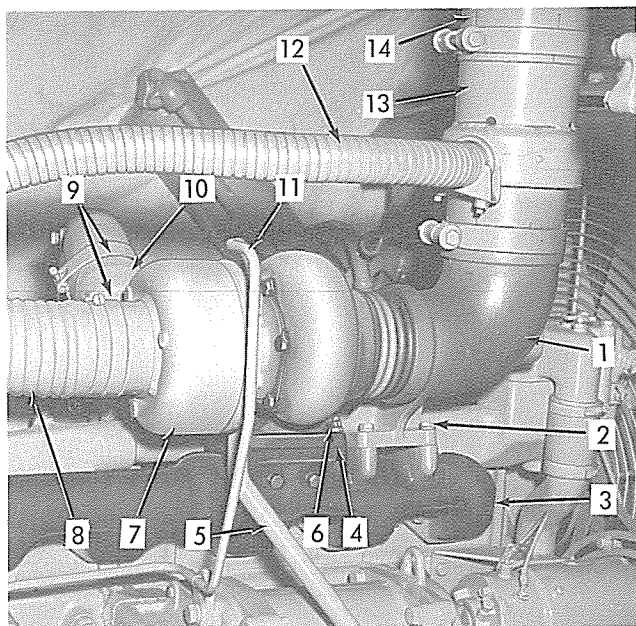

Fig. 2 — Turbocharger — Installed
A. TURBOCHARGER REMOVAL (Fig. 2)
1. Disconnect hose (8) from turbocharger (7).
2. On models equipped with an aspirator (13), disconnect aspirator hose (12) and remove aspirator (13) and/or exhaust pipe (14).
3. Remove capscrews (2) and lockwashers, and remove elbow (1) from manifold (3).
4. Loosen hose clamps (9) and free hose (10) from turbocharger.
5. Disconnect oil supply line (11) and drain line (5) from turbocharger.
6. Remove nuts (6) and plain washers and carefully remove turbocharger (7) and gasket (4) from manifold (3).
B. TURBOCHARGER INSTALLATION (Fig. 2)
2. Using a new gasket (4), position turbocharger (7) on manifold (3).
3. Install plain washers and special nuts (6) and tighten to a torque of 18 - 21 lbs. ft.
4. Slide hose (10) into position on turbocharger and tighten hose clamps (9).
5. Connect hose (8) to turbocharger.
6. Install elbow (1) and secure with lockwashers and capscrews (2).
Legend for Fig. 2